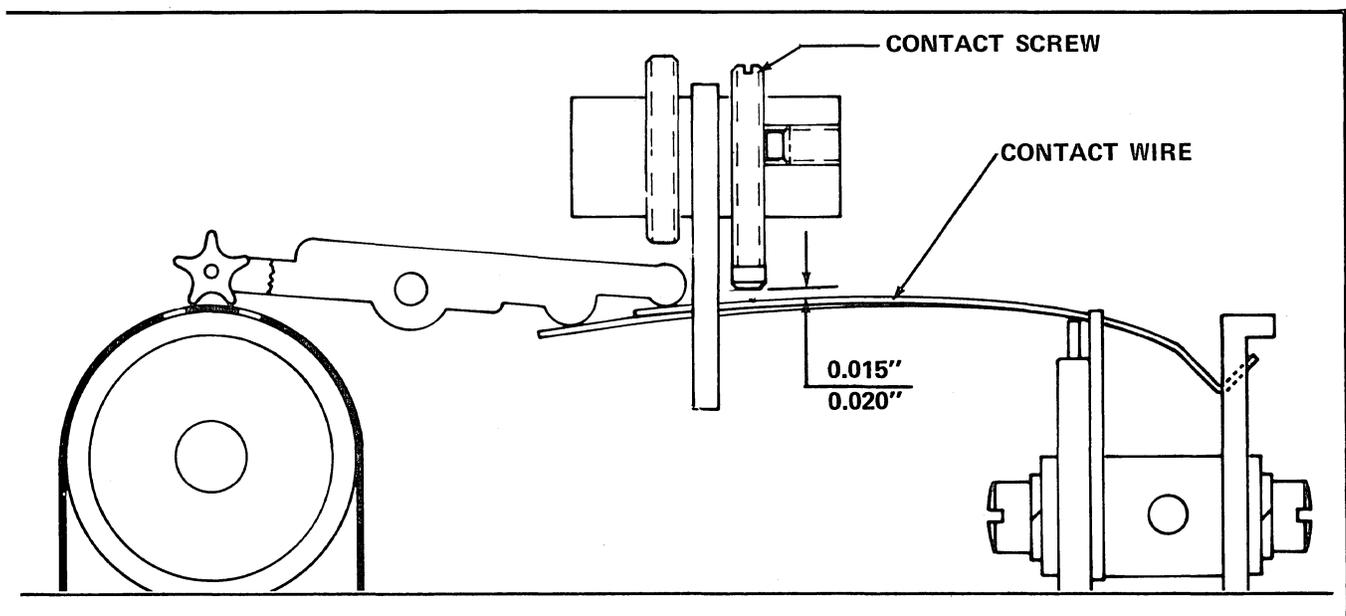

Figure 6-22 Contact Wire and Contact Screw Gap Adjustment
- (5) Advance tape to no-hole position and check for gap between contact wire and contact screw. Gap should be 0.015" - 0.020". Use 0.020" round gauge (see Table 7-1). See Figure 6-22.